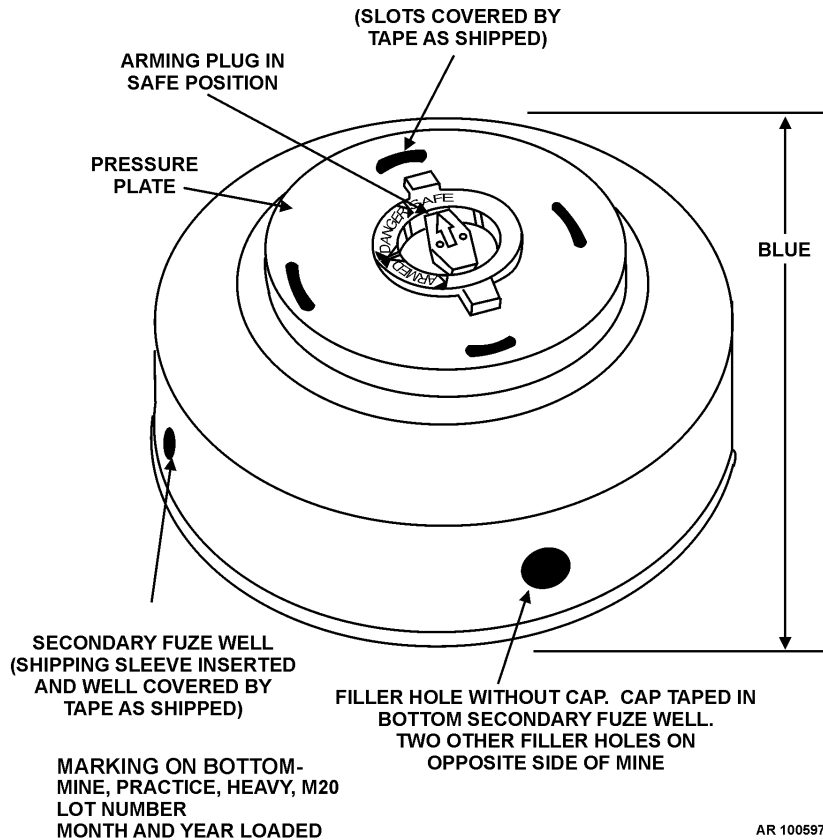

Figure 1-17. Mine, antitank, practice: heavy, M20.
(1) Mine (fig. 1-17) is a flat, cylindrical, steel casing, approximately 4-7/8 inches high and 13-1/8 inches in diameter, similar externally to service mine M15. It differs chiefly in having three filler holes in the side and perforations in top and around side secondary fuze well. Mine may be boobytrapped by installation of one or two secondary fuzes, each consisting of practice antitank mine activator M1 and any regular-type firing device having 9/16-inch threads. Although inert, mine has a smoke charge and primer M45 in main fuze M604. Mine is issued empty with arming plug M4 assembled, but without primary or secondary fuze. It is to be loaded with sand and fuzed in the field.
(2) For information on functioning of this mine, refer to paragraph 1-15.